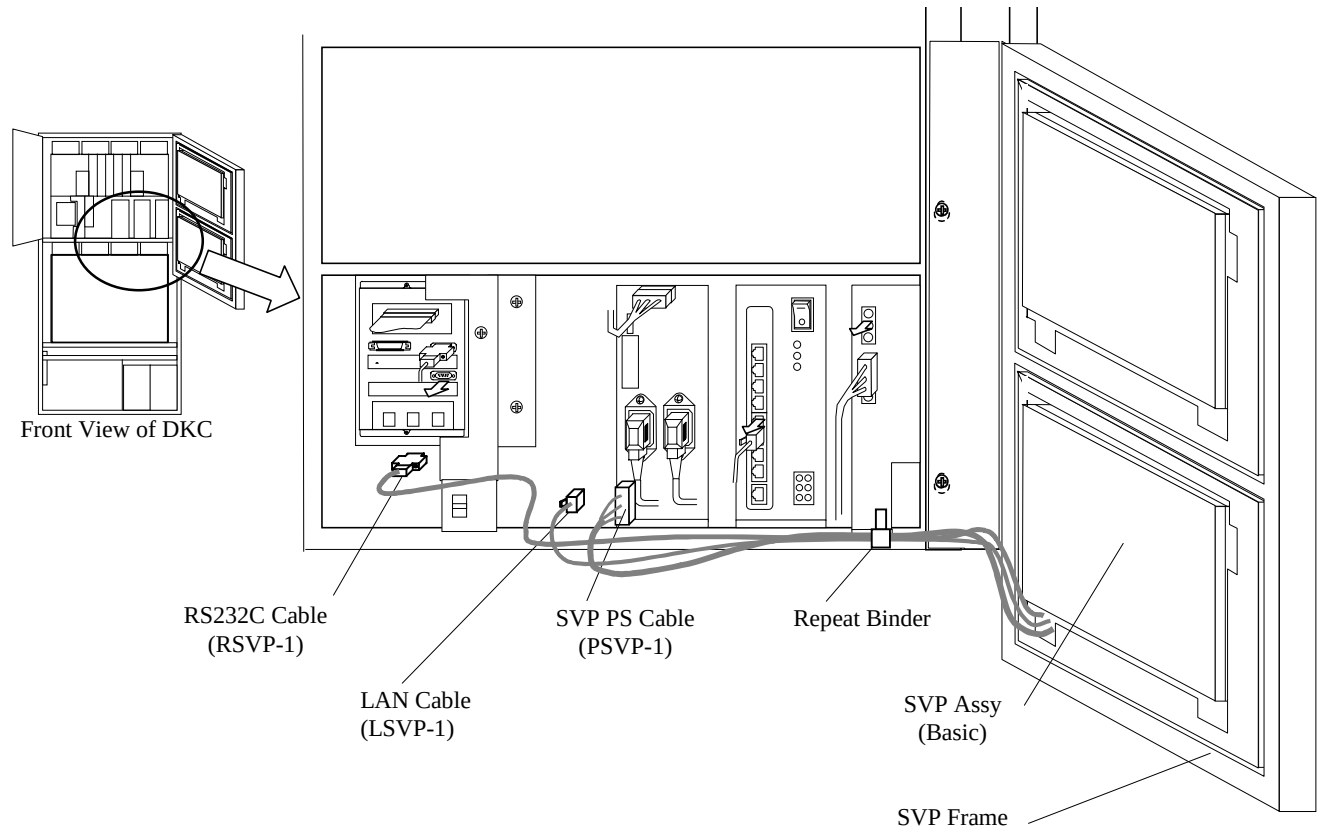

Fig. 4.12-7 Removal of Cables
- b. Attach the SVP ASSY cables to the RS CON PCB, HUB BOX and CON PLATE. And then close the repeat binder. (See Fig. 4.12-7 and 4.12-10.)